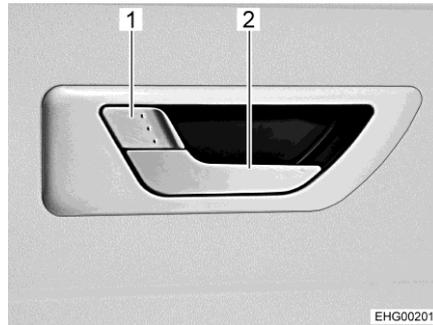

Fig. 48 Door lock of conversion door
- When the door lock is locked: Pull the long door handle (Fig. 48,2). The door is unlocked and open.
- Press the short door handle (Fig. 48,1) of the closed door.